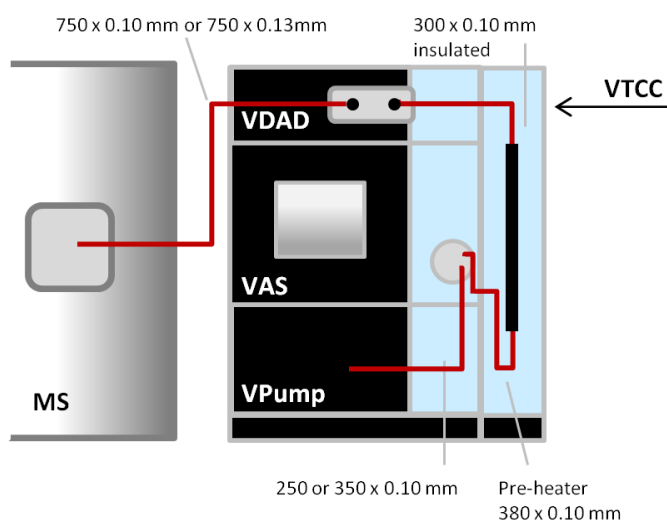
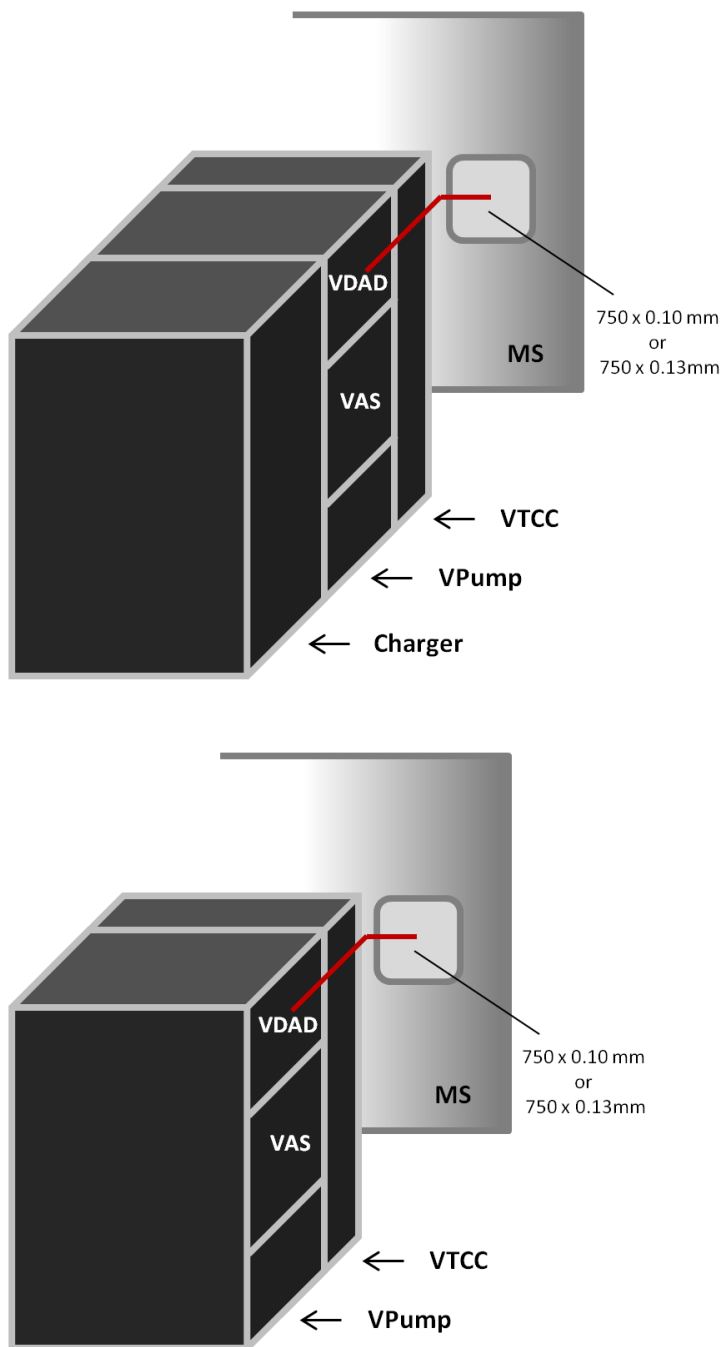

Figure 3. Setup for a Vanquish system with optical detector as front-end for Exactive mass spectrometers.
Figure 7. Setup for a Vanquish system with optical detector with or without Charger as front-end for Exactive mass spectrometers.
- 2) Stack the modules as shown below and make all fluidic connections using Viper capillaries, according to Figure 3. The picture illustrates the course of the flexible Viper capillaries in general. Thermo Fisher Scientific recommends installing all capillaries inside the modules as needed. Table 3 provides a detailed overview on the capillaries used and where to find them.
- 2) Stack the modules as shown below and make all fluidic connections using Viper capillaries, according to Figure 7. For further details about the course of the flexible Viper capillaries see Figure 3. Thermo Fisher Scientific recommends installing all capillaries inside the modules as needed. Table 7 provides a detailed overview on the capillaries used and where to find them.